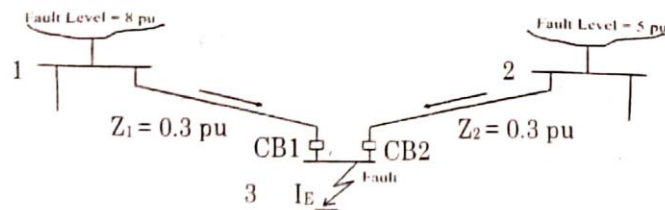

Figure. 7
16. (a) Figure. 7 shows a part of a power system, where the rest of the system at two points of coupling have been represented by their Thevenin's equivalent circuit (or by a voltage source of 1 pu together its fault level which corresponds to the per unit value of the effective Thevenin's impedance). (15)